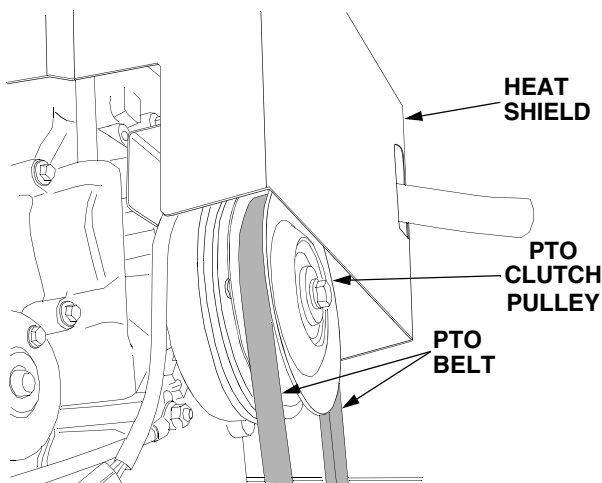

Figure 35
13. Maneuver the loop of the belt up between the front of the PTO pulley and the heat shield and place the belt into the groove of the pulley. See Figure 35.